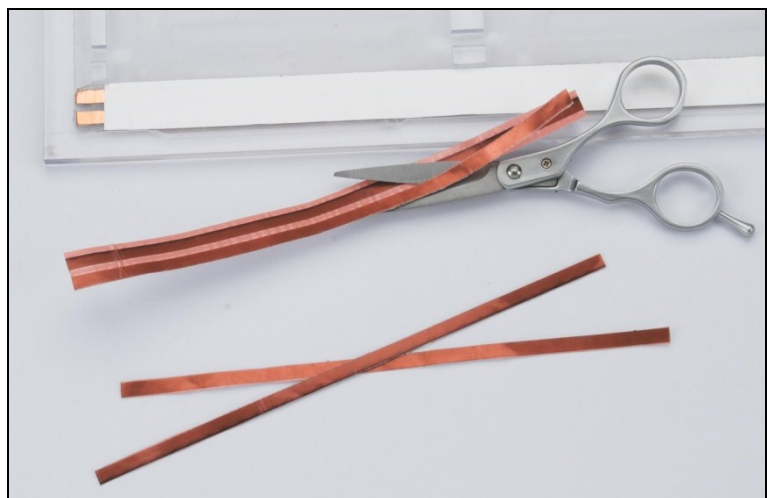

Figure 6
- ✓ Cut out each conductor so that there are four strips with the protective covers intact (Figure 6). Cut right next to the copper itself; leave no transparent "sticky" material along the edges. This way, when you place the single bars into the grooves, there are no "stickies" along the vertical walls of the grooves—the whole bus-bar assembly will lay flat on the bottom of the groove.